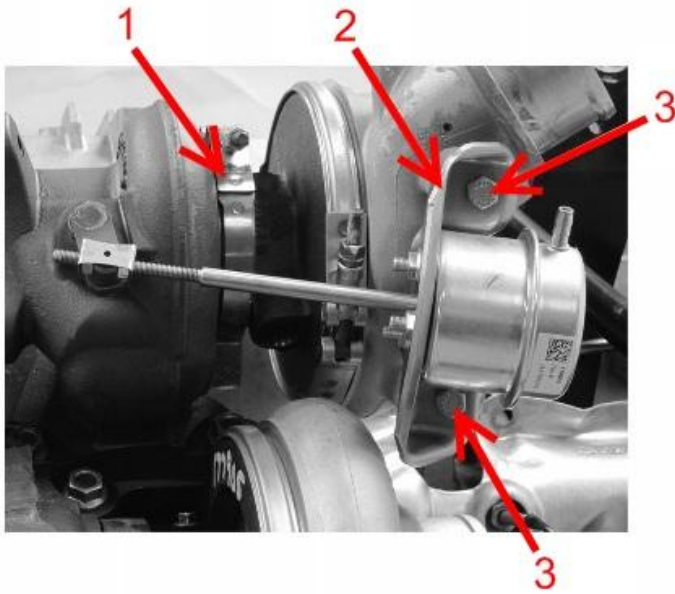

Figure 15: Turbo Wastegate Actuator
5. Install turbine V-band clamp (**Figure 15**, Item 1) on HP turbocharger.
6. Using torque wrench, torque turbine V-band clamp (**Figure 15**, Item 1) to 13 lb-ft (17 N•m).
7. Install wastegate actuator (**Figure 15**, Item 2) with two bolts (**Figure 15**, Item 3).